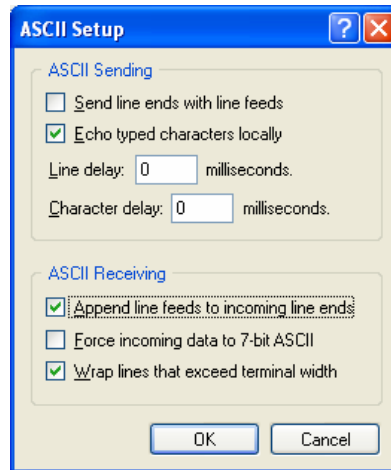

Figure 6-7: Entering ASCII Settings
8. Select these ASCII settings, then click **OK** (Figure 6-7).